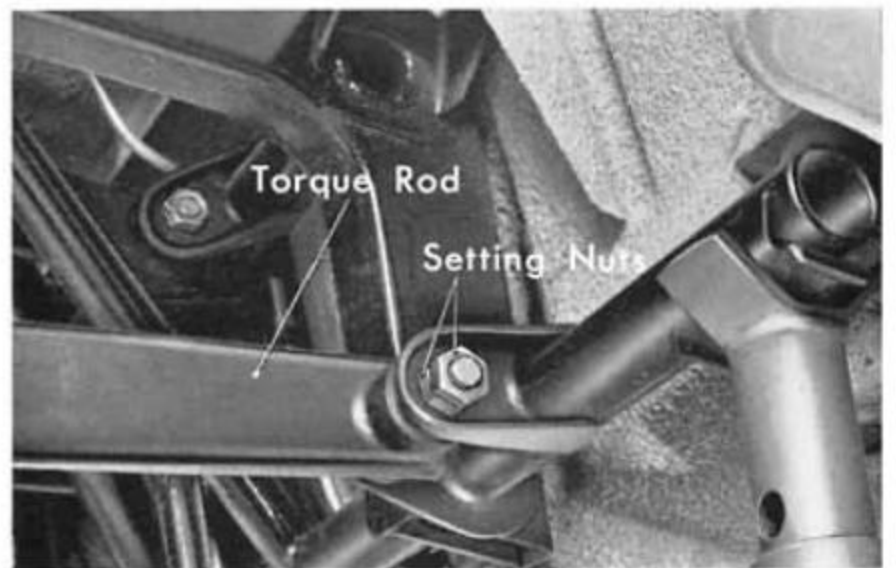

Fig. 8B-6
9. Remove the parnal rod setting bolts, nuts and washers and then disassemble the parnal rod (Fig. 8B-7).